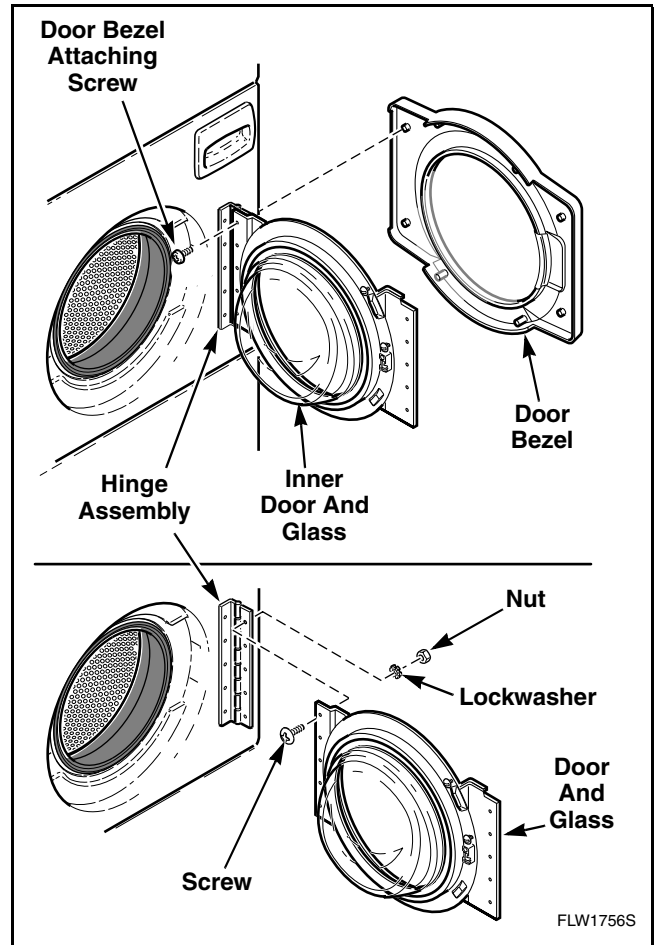

Figure 17
- Remove door bezel by removing screws attaching it to inner door. Refer to *Figure 17*.
- While supporting loading door, remove screws, lockwashers and nuts holding loading door to hinge assembly and remove door. Refer to *Figure 17*.